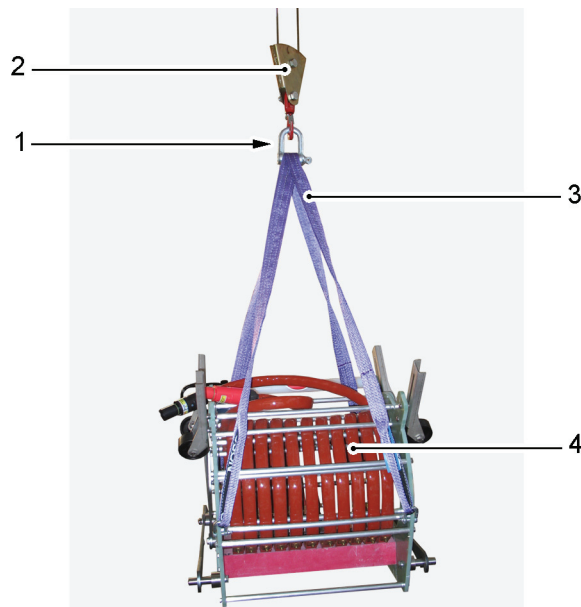

Figure 4.6 - Coil hooking
- 1) Get the purposed belts (see Figure 4.6/3), delivered jointly with the coil (4), hooked to the omega clevis (1).
- 2) Get the omega clevis (1) hooked to the crane block (2), and carefully hoist, by making sure that the coil (4) gets correctly lifted.